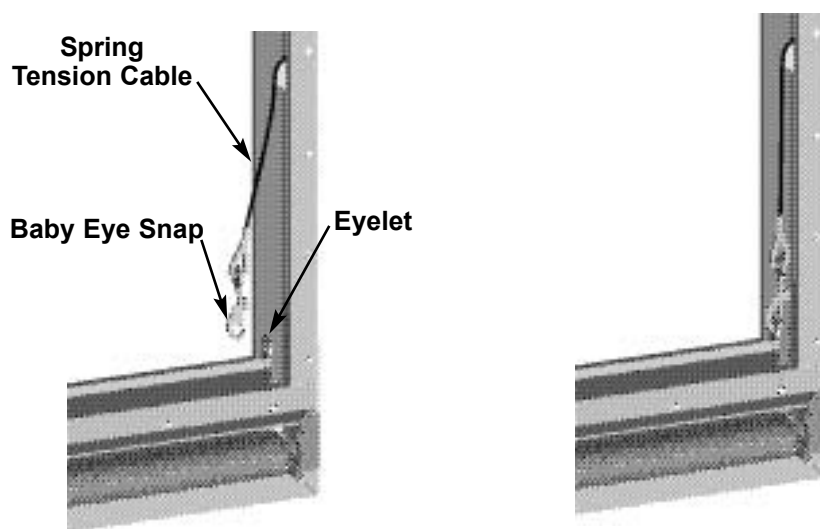

Figure 6: Connecting the spring tension cable
2. Connect the baby eye snap to the eyelet on the lower bottom of the unit. See Figure 6. You will need to pull the cable slightly (about 10 lbs. / 4.5 kg of tension).